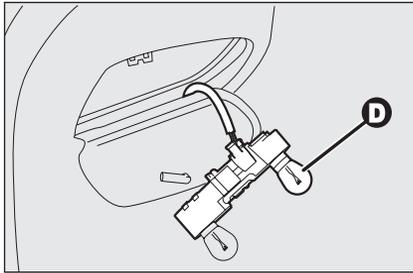

fig. 36
- remove and replace the burnt-out bulb by pressing it slightly and turning it counterclockwise **fig. 36**: